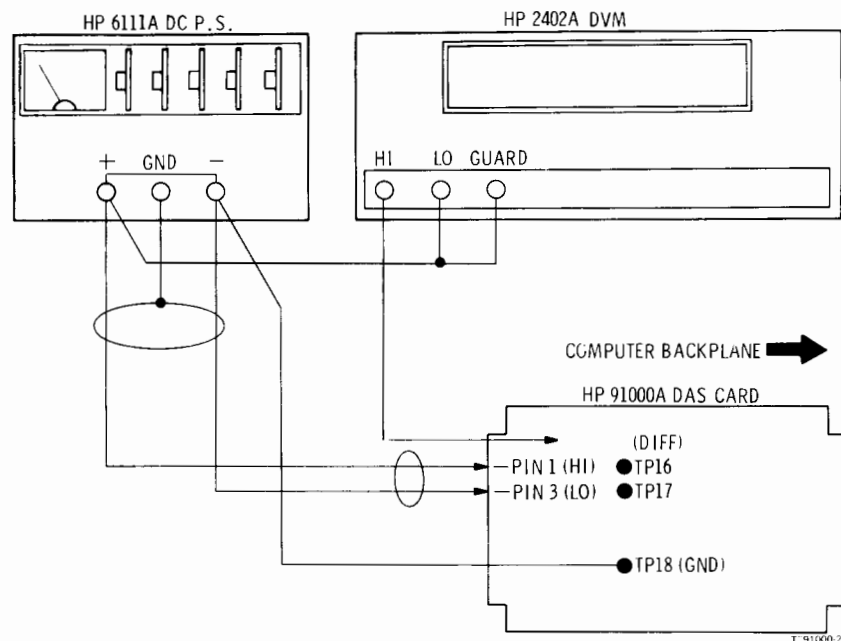

Figure 4-2. Zero Adjustment Test Setup
- Connect test equipment to DAS card as shown in Figure 4-2. Connect HI lead of DVM to TP16 (DIFF TO SE OUT) on DAS card.
- With test equipment connected as shown in Figure 4-2, connect HI lead of DVM to TP17 (S/H AMP OUT) on DAS card.